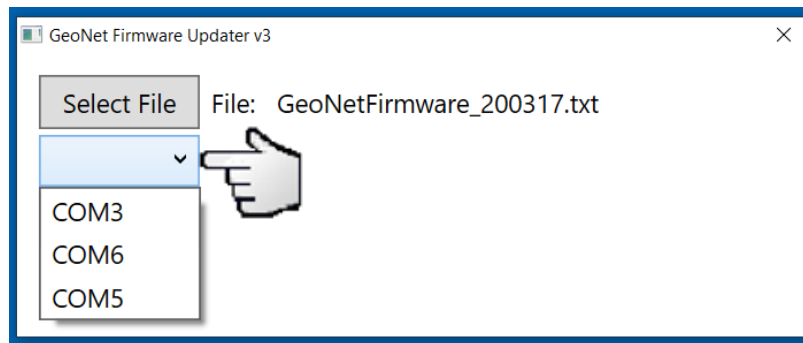

Figure 9- Select COM Port
10) Using the drop-down box below the “Select File” button, select the correct serial port for the *8001-7* or *COM-166* cable (Figure 9). To identify which serial port the unit is connected to, complete the following: